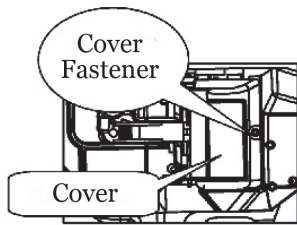

Figure 1
- Remove the screw that fastens the plastic cover over the motor. (figure 1)